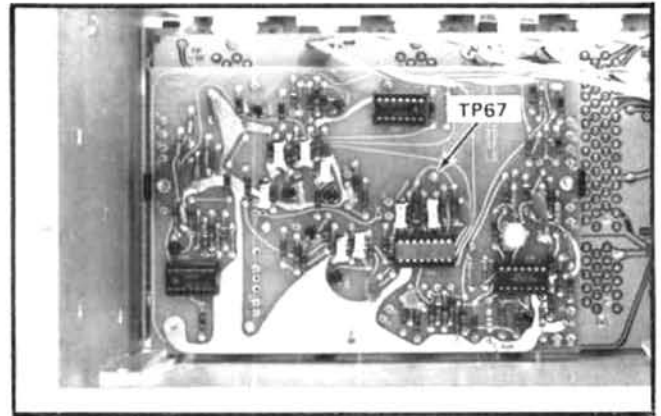

Fig. 2-4. Location of TP67 on Logic board (shown with power unit removed).
b. Connect the probe tip to TP67 (see Fig. 2-4).